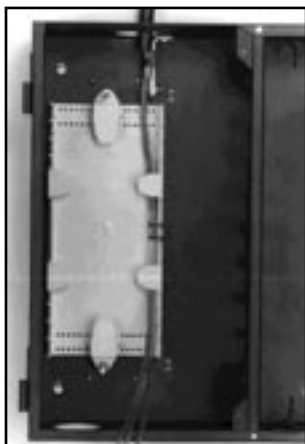

FIGURE 3 - SECURE BUFFER TUBES AND TRANSPORT TUBES TO TRANSITION ASSEMBLY
4.12 Using two of the tie wraps provided, secure the buffer tubes and Transport Tubes to the right wall of the Transition Assembly. (Figure 3) Proceed to Step 4.18.